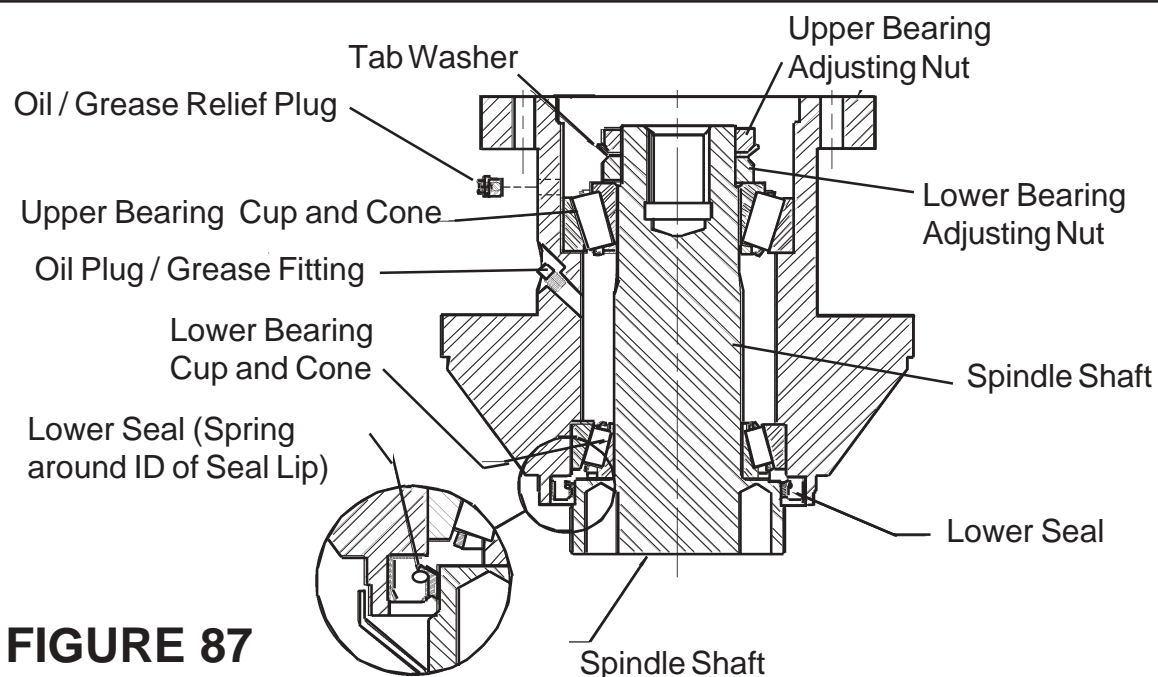

**FIGURE 86**
1. Remove the Motor Hold Down Tie Rod Nuts. Hold Down Plate only used on old style motor, new style will not use hold down plate. On the Top side of motor that are screwed on to Motor Hold Down Tie Rods (See Figure 86), It may be required to hold Ties Rods, This can be done with a Pipe Wrench or other round surface gripping Tool. See Hydraulic Motor sections to determine which motor you have, These type motors only used on rotary heads only.
5. Install Motor Plate (Old Style), Note: This Plate has a front and Back and MUST be installed correctly for the four bolts that go down through the Plate to hold the Valve Block to fit, See Figure 91 on next page or read step 3 above. If working on an older model where the Four Bolts for the Valve Block went through the Motor Plate (see Figure 86), remove the temporary Bolts you installed to hold Valve Block on. Install New O-Rings and Back up Rings on Valve Block. Install Motor Plate down over Tie Rods; Install the four Bolts into Motor Plate that goes through Valve Block and tighten them down. DO NOT tighten the Nuts on the Tie Rods yet. Note to convert old style Motor Plate to new style, use a 13/16" Drill Bit and drill out (Recess) the 4 holes to a depth of 5/8" minimum, this will allow plate to sit down over Bolt Heads for Valve Body on top of Motor.